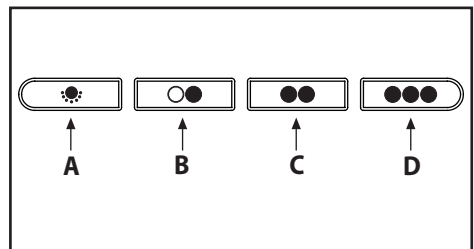

Fig.13
• **Mechanical controls (Fig.13):** the symbols are as follows: